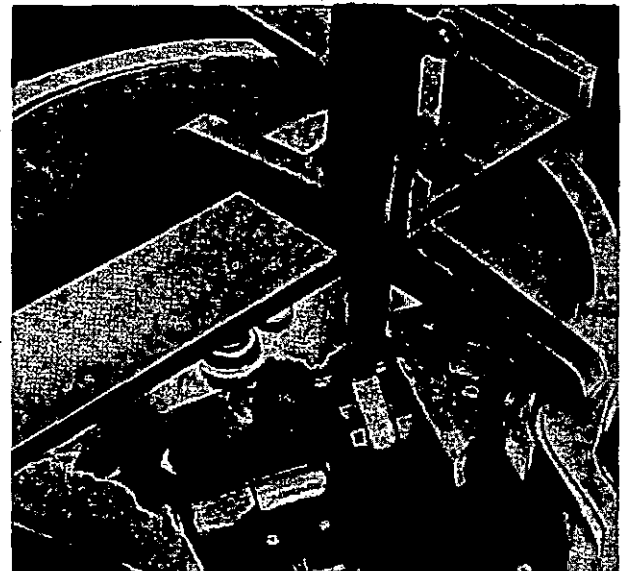

Fig. 57 Checking position of 'S' plate
6. Invert the governor rear cover and set the control lever to MAX. FUEL so that the pilot pin is at the bottom of the 'S' curve. Place a new gasket on the joint face and measure the distance between the gasket and the pilot pin, as in fig. 57. this dimension, to the *centre* of the pin, should be 0.965 inch (24.5 mm.). Using the depth gauge as illustrated, *deduct* from its reading the thickness of the measuring bar and *add* 0.118 inch (3mm.), which is half the diameter of the pilot pin. Adjust, if necessary, by means of shims beneath the 'S' curve plate.
- (c) Vary the thickness of the shims beneath the (S) plate (fig. 57). Reducing shim thickness by 0.15 mm. reduces rack travel approximately 1 mm., and vice versa.